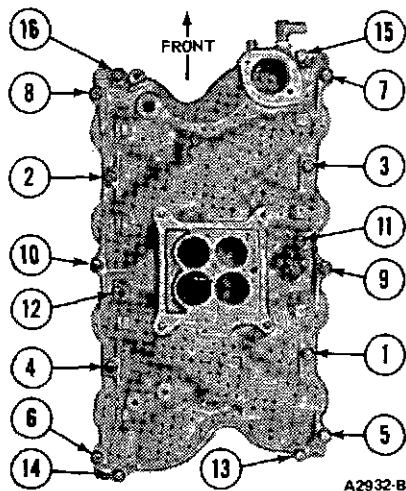

FIG. 40 Intake Manifold Torque Sequence
6. Be sure intake manifold gaskets are properly aligned. Then install attaching bolts and nuts snugly to manifold. Tighten bolts and nuts in sequence (Figure 40) to specifications to compress gaskets and seals. Then repeat sequence, tightening bolts and nuts to same specifications.